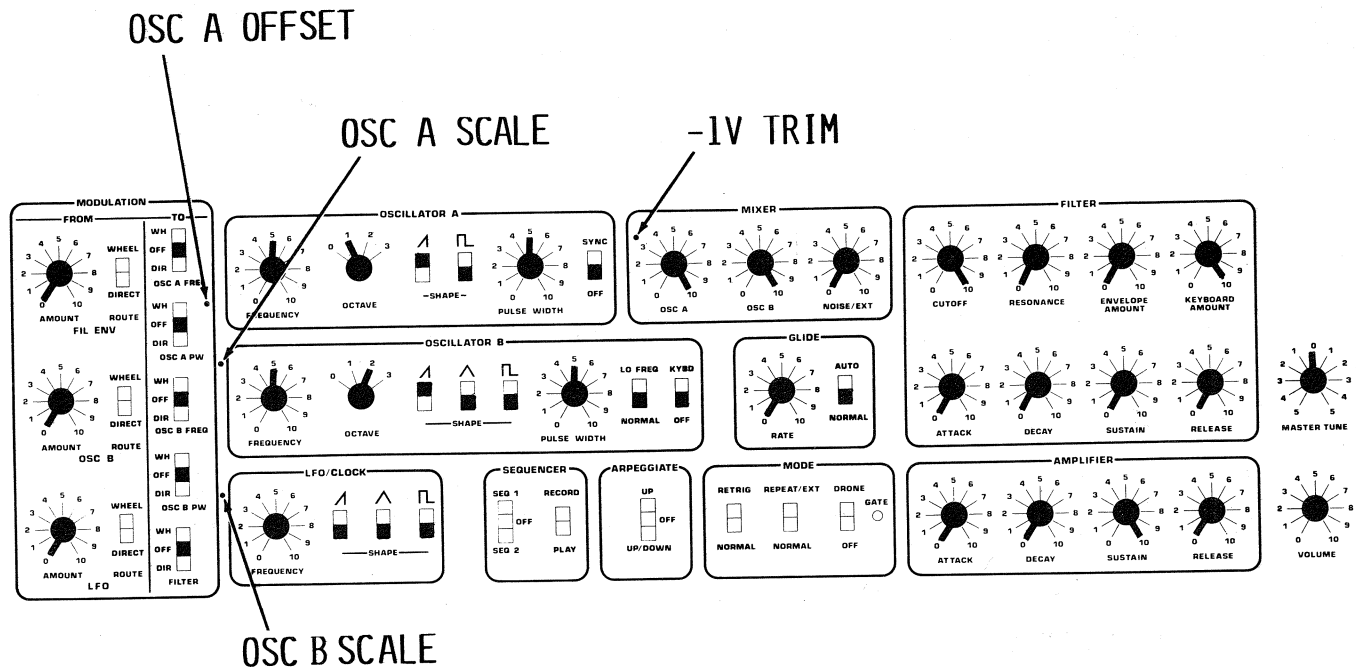

Figure 4-0
1. Patch according to Figure 4-0. Note trimmer names and locations.